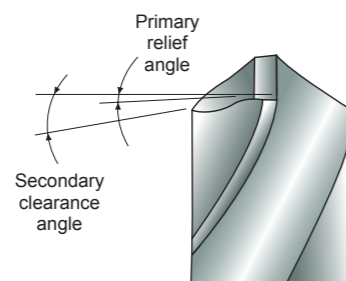

Figure 9
- ③ Grind Primary relief and Secondary clearance. (figure 9)